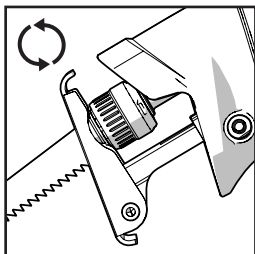

Fig. 1
- Twist and hold the blade clamping dial anti-clockwise. **(Fig. 1)**